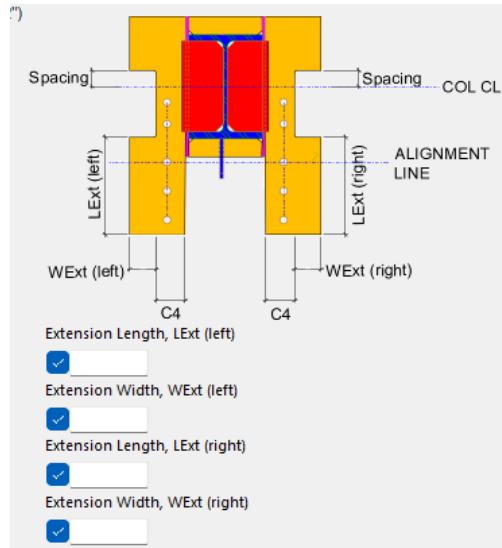

Figure 7-23. R8 Extended External Continuity Plate Option
3. To extend the left ECP only part of the length of the plate (see length indicated in Figure 7-23), enter that length in the **LExt (left)**. This will only extend the plate indicated in Figure 7-23.